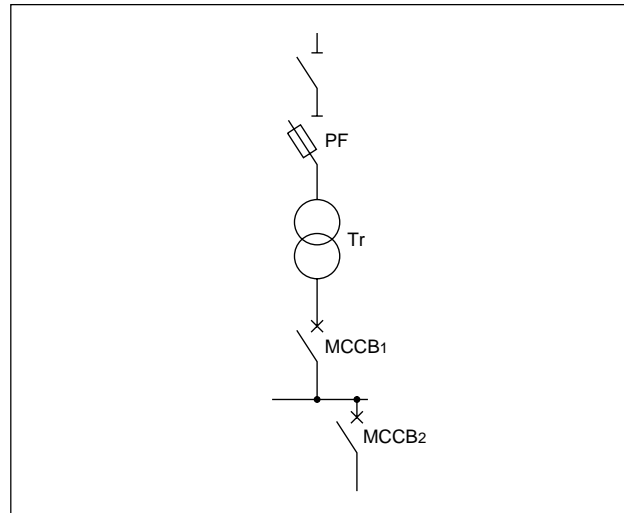

Fig. 6.22 Protective Coordination of MCCBs and HV-Side PF
The MCCB on the secondary (low-voltage) side of a power transformer must have tripping characteristics that provide protective coordination with the power fuse (PF) on the high-voltage side (Fig. 6.22). The MCCB must always trip in response to overcurrent, to ensure that the PF does not fuse or deteriorate by elevated temperature aging.